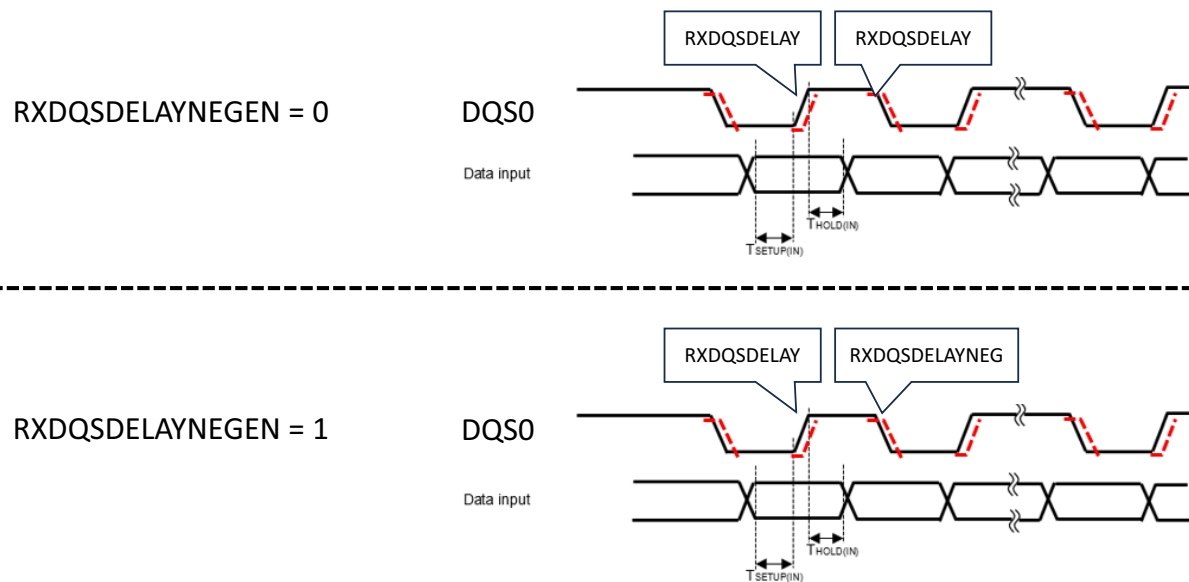

Figure 23. Octal/Hex DDR Mode with DQS - Read Delay Lines - Lower Data Byte DQS
Figure 23 shows DQS0 delay parameters in Octal/Hex DDR Mode with DQS, with respect to the input (RX) data byte (lower data byte for Hex) when $RXDQSDelayNegen = 0$ and when $RXDQSDelayNegen = 1$. See the fields in the $DEVnDDR$ register which set these parameters.